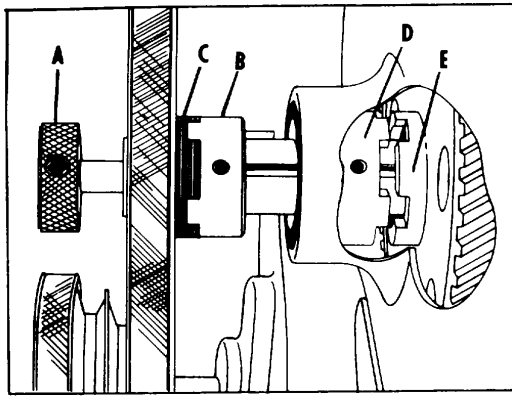

Fig. 19
When using this machine for wood cutting (3000 FPM), the shifter knob (A) Fig. 19, is always pulled out all the way so that the lugs of the clutch (B) are engaged with the hub (C) of the driven pulley. This will disengage the clutch (D) from the hub (E) of the gear that transmits power through the gear box, as shown in Fig. 19. It may be necessary to rotate the pulley manually in order to line up the clutch lugs with the slots in the hub of the pulley. This provides a direct drive from the motor pulley to the driven pulley, by-passing the gear box.